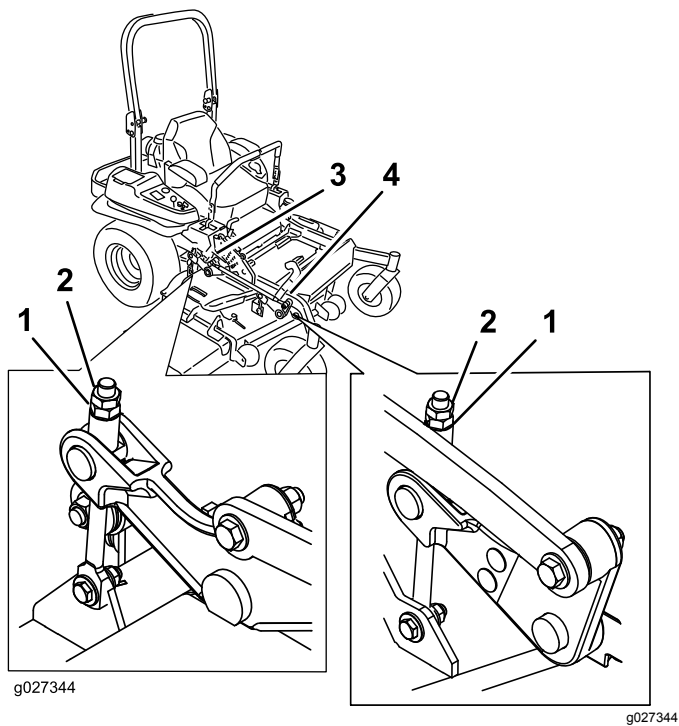

Figure 90
10. Fine-tune the adjustment nut on the front deck-lift assembly by turning it (Figure 90).
16. Fine tune the screw adjuster by turning it to get 8.3 mm (3-1/4 inches) height (Figure 90).